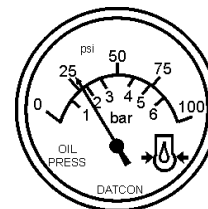

Figure 54. Oil Pressure Gauge
13. The engine oil pressure gauge (Figure 54) will indicate the oil pressure (kg/ cm²) of the engine. Under normal operating conditions the oil pressure is approximately